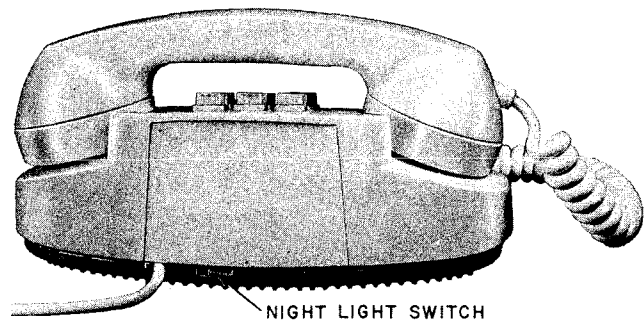

Fig. 4 — 2700 Series Telephone Set, Rear — Night Light Switch Location
- **Night light switch:** allows dial lamp to be operated at reduced intensity (dial lamp illuminates dial at full intensity with handset off-hook) (Fig. 4).